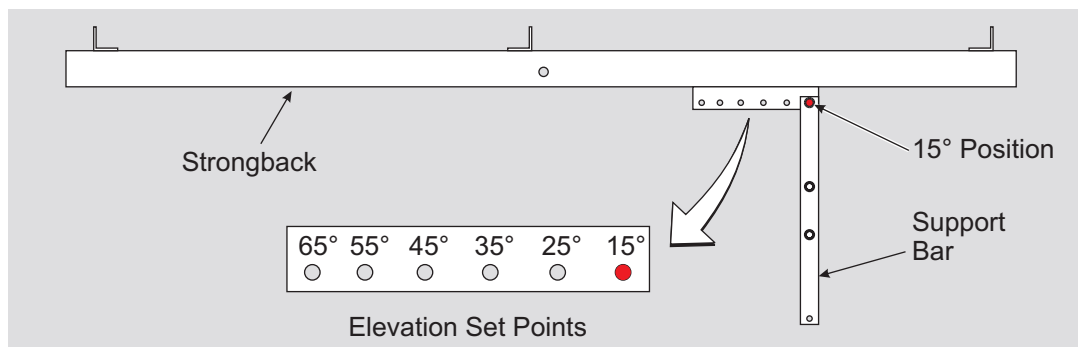

Figure 6-1: Positioning Support Bar
- Remove the Support Bar from the Strongback and re-install in the 15° elevation set point. Secure with the 3/8" hardware and finger tighten. (See Figure 6-1)